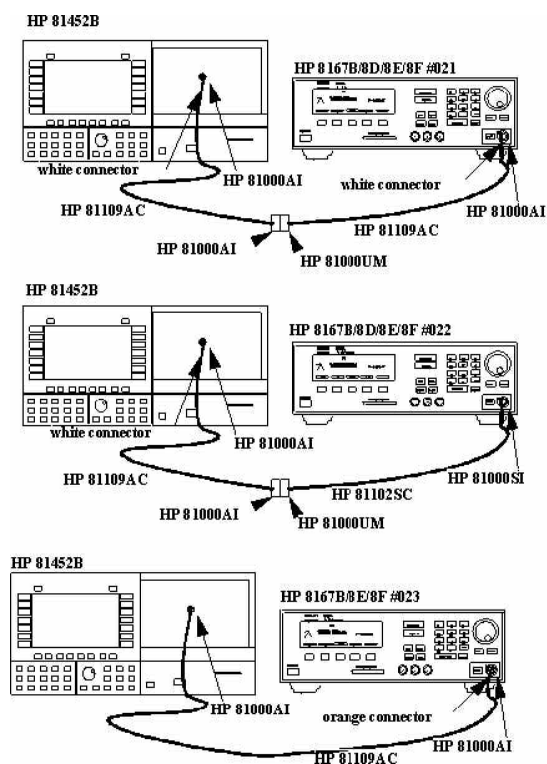

Figure D-5. Test Setup for the Source Spontaneous Emission Test
1. Connect the TLS (DUT) to the wavelength meter as shown in Figure D-5.